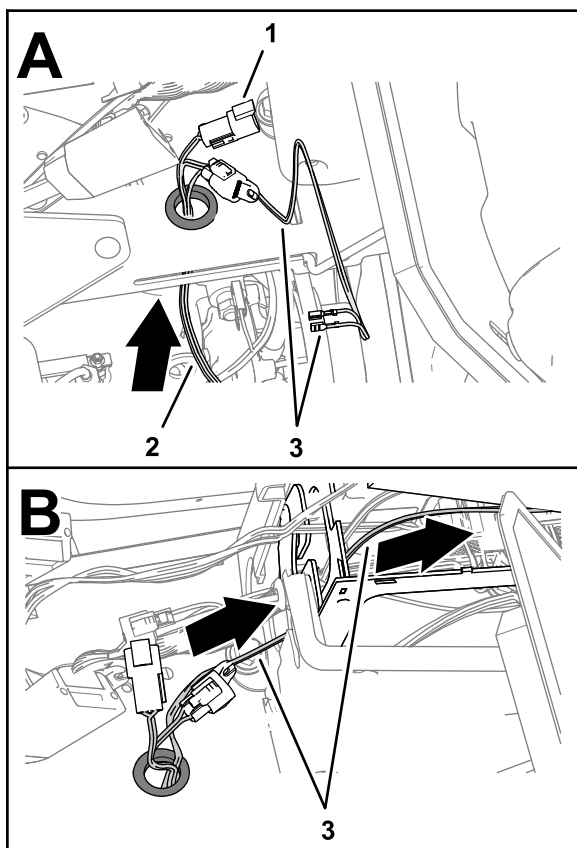

Figure 106
1. Route the wire harness branch labeled REMOTE ENGAGE SWITCH through the grommet (Figure 106) that you installed in 16 Drilling the Console Base \(page 29\).
2. Route the wire harness branch labeled REMOTE ENGAGE SWITCH) into the center console (Figure 106).